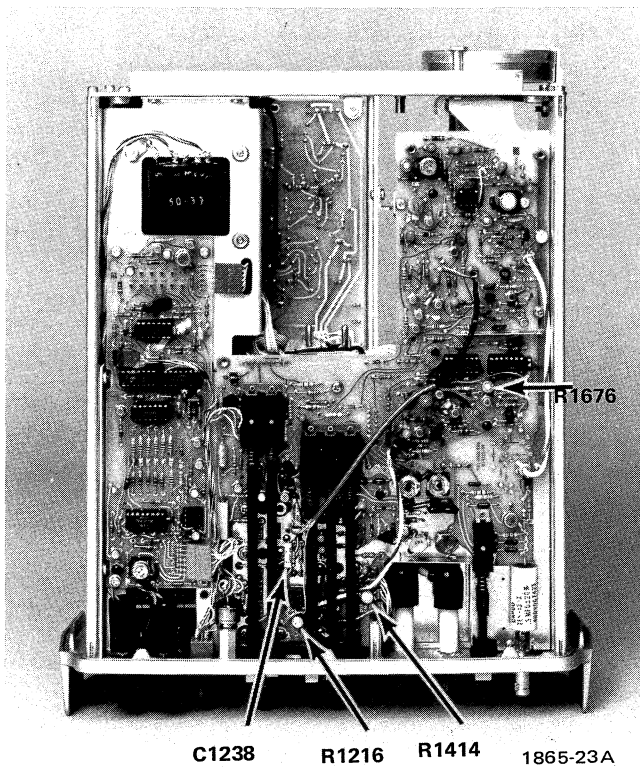

Fig. 4-7. Fast Ramp test point.
a. Connect the test oscilloscope test probe to the front lead of C1238 (see Fig. 4-7).
c. ADJUST—R1676 (RAMP PEAK) for a peak-to-peak amplitude of 6 V \pm 0.2 V with the ramp beginning at an approximate -2 V level and ramp ending at an approximate $+4$ V level (see Fig. 4-7).